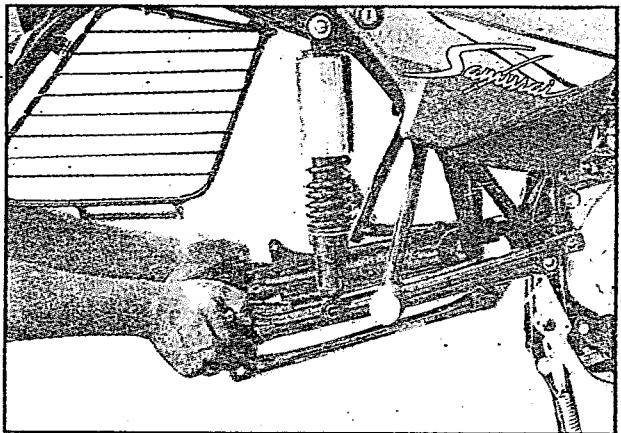

Fig 6.68
- Take off the swing arm (fig 6.68)